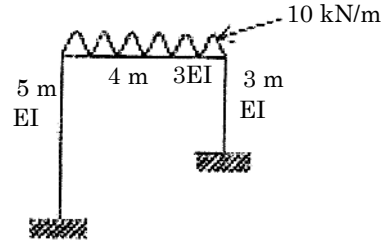

Fig. 15 (a)
15. (a) Analyse the frame shown in Fig. 15 (a) by moment distribution method.